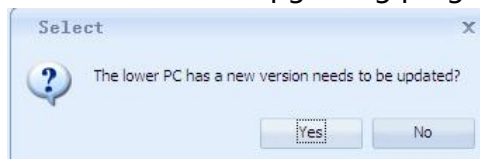
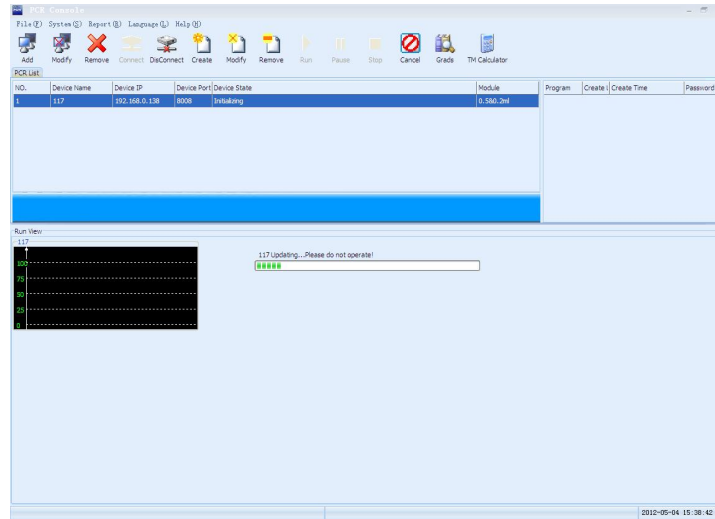

Figure 3-2
Figure 3-3
Step2. Connect the Thermal Cycler with the PC, dialog box of update version will appear. (Figure 3-2), select " Yes" to start upgrading program. (Figure 3-3)